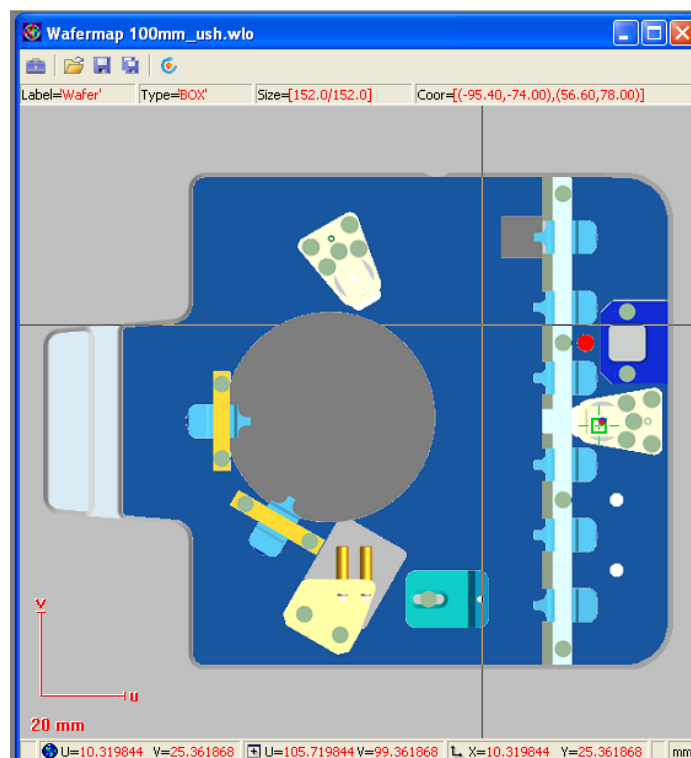

Figure 9: Wafer map in e-Line software.
5. Move the stage so that the beam is pointed at a place on the sample holder adjacent to your sample. You do not want to hit your sample in the middle when you first expose it to the electron-beam. For this you can use the wafer map in the e-Line Software to navigate the sample holder. See figure 9. The green square is where the gun is currently at. By holding down the CTRL-button and right-clicking on the map will place that point of the sample holder underneath the column. If you cannot find the wafermap: it can be opened via the File menu in the e-line software. (Open wafermap -> open the file 100mm_ush.wlo located in e-line/user/qttest/wafer)